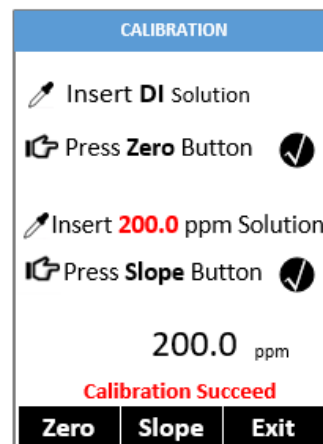

Figure 6.
9. If the calibration succeeds, a checkmark (✔), a “Calibration Success” message will appear (Figure 6). Otherwise, a warning message is displayed.
10. Calibration is now complete. Press **Exit** (OK) to return to measurement mode.